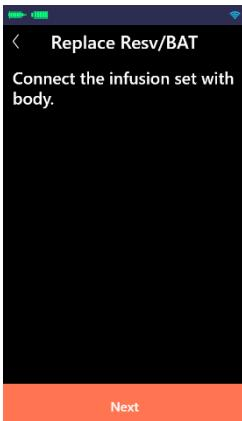

Figure 10.4
**(4)** Connect the infusion set with body (as shown in Figure 10.4). When it is completed, click "Next".